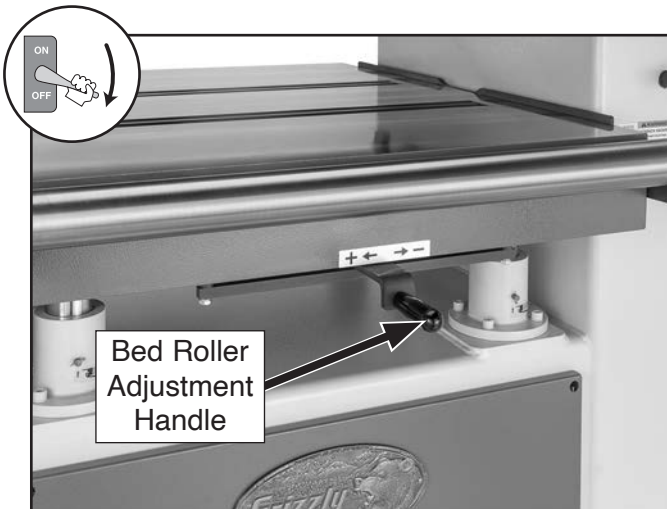

Figure 51. Bed roller height controls.
2. Slide bed roller adjustment handle right to lower bed rollers (see **Figure 51**).
3. Slide bed roller adjustment handle left to raise bed rollers (see **Figure 51**).